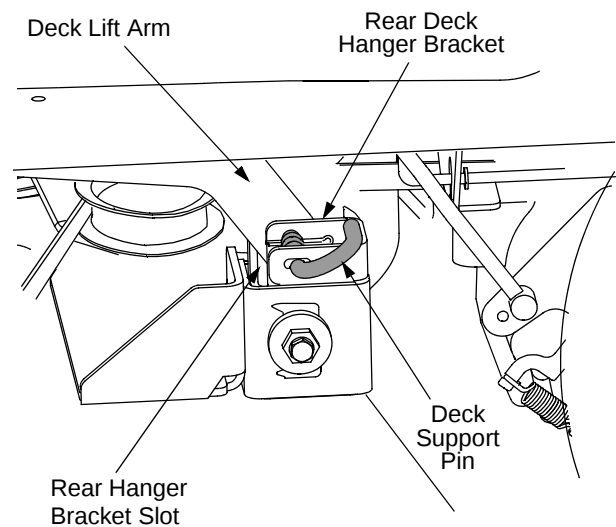

Figure 27
- Looking at the cutting deck from the left side of the tractor, locate the deck support pin on the rear left side of the deck. See Figure 27.
- Pull the deck support pin outward to release the left side of the deck from the deck lift arm. See Figure 27.
- Maneuver the deck so that the slots in the two rear deck hanger brackets approximately align with the deck lift arms of the tractor. Refer to Figure 27.
- Pull the deck support pins outward and maneuver the deck as necessary to align the holes in the deck lift arm with the pins. Refer to Figure 27.